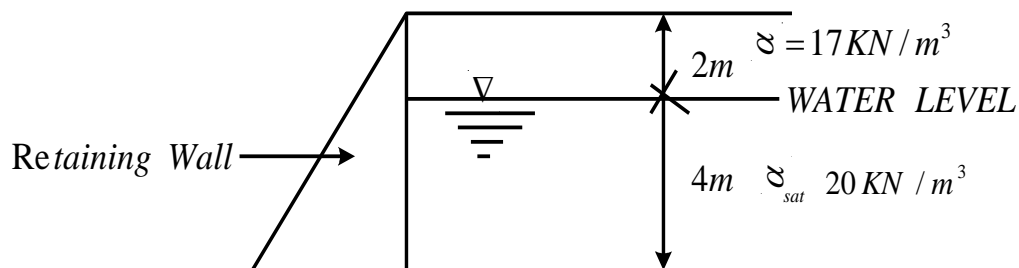

Fig. 1
- (b). Referring to Figure 1, calculate the total thrust against the wall retaining a soil having an angle of frictional resistance of 35° . **(12 Marks)**